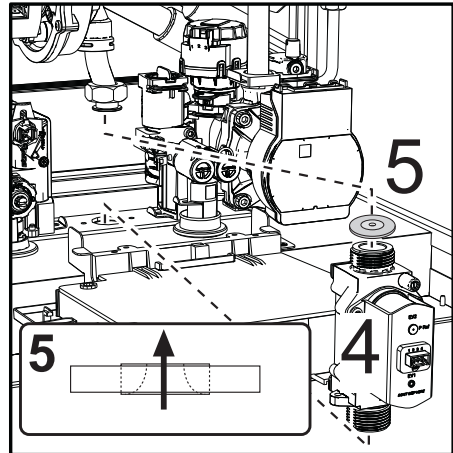

fig. 59
- Remove the gas valve "4" and the gas diaphragm "5" (fig. 59).